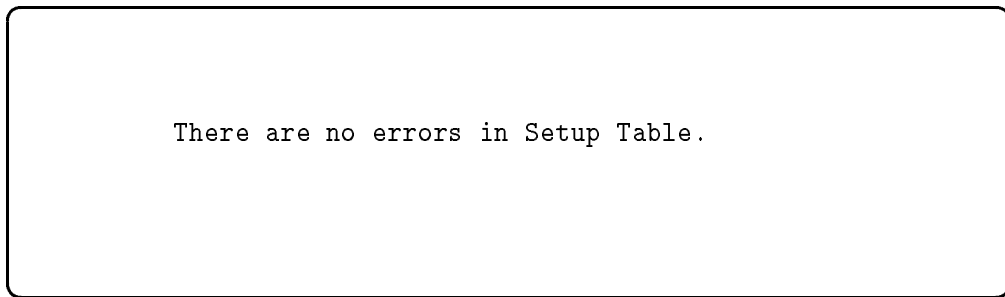

Figure 5-7. No Errors in the Test Setup Table
4. When all errors are corrected, a message as shown in Figure 5-7 appears at the bottom of the computer screen.